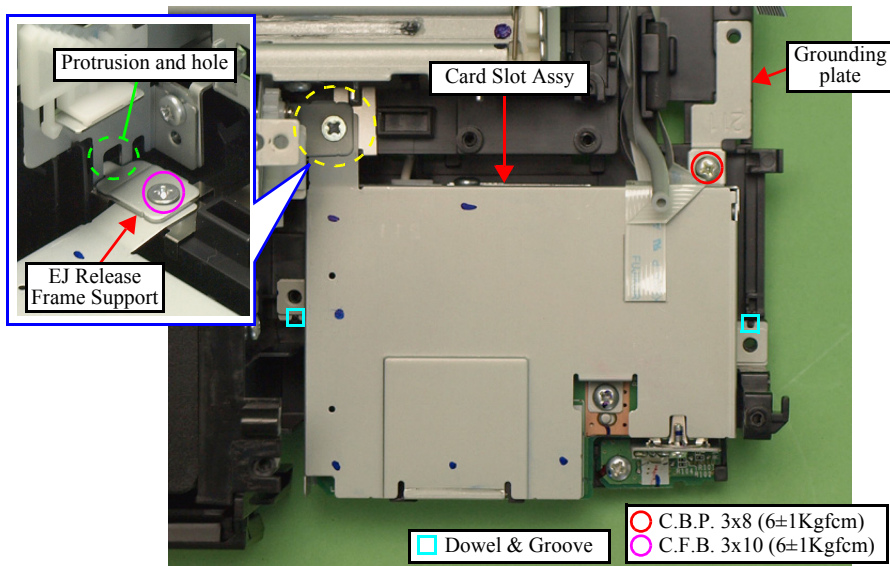

Figure 4-189. Removing the Card Slot Assy (1)
- Align the grooves (x2) of the Card Slot Assy with the dowels (x2) of the Base Frame. (See Fig. 4-189.)
- When attaching the grounding plate, install it over the Card Slot Assy, and tighten them together with the screw. (See Fig. 4-189.)
- When attaching the EJ Release Frame Support, insert the protrusion of the EJ Release Frame Support to the hole of the Main Frame, and then secure them with the screw. (See Fig. 4-189.)